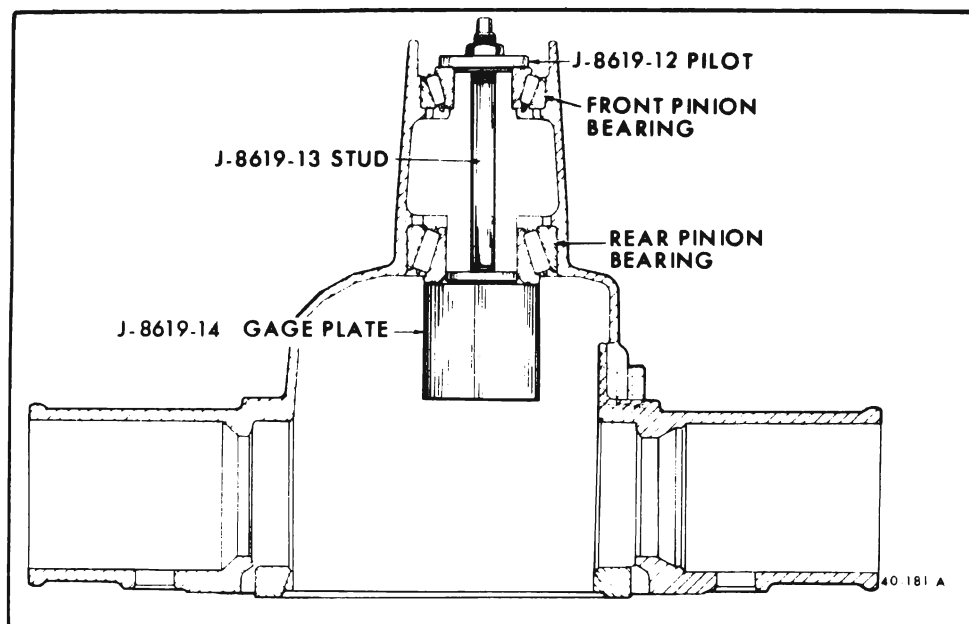

Figure 40-192 - Gage Plate and Bearings Installed
3. Assemble pinion bearings, pinion setting Gage Plate J-8619-14, Stud Assembly J-8619-13 and front bearing Pilot J-8619-12 into carrier assembly and tighten hex nut until 20-25 lb.in. (new bearings) or 10-15 lb.in. of torque is required to rotate the bearings. See Figure 40-192.